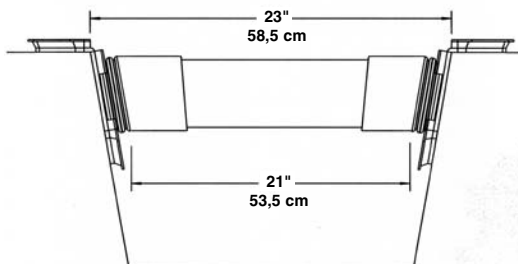

Figure 1 Figura 1 Illustration 1
In each carton of conduit sleeve couplings you find an even number of couplings. Each installation will require two couplings per pass-through assembly as pictured in Figure 1. The conduit sleeve coupling is designed to be mounted in vertical wall spans or angled wall spans up to 30° per side.
1. To determine the necessary cut length of conduit to create a pass through, measure the distance of span at top edge of form as shown in Figure 1.
- Cut conduit to length: 21" (Figure 1)